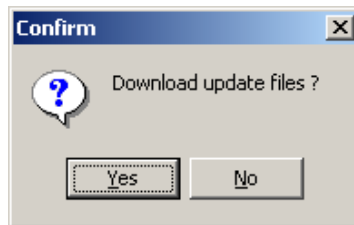

Figure 1.53 File download confirmation prompt
2. A message prompt will appear asking for download confirmation as in Figure 1.53. Click *Yes* to download these files.